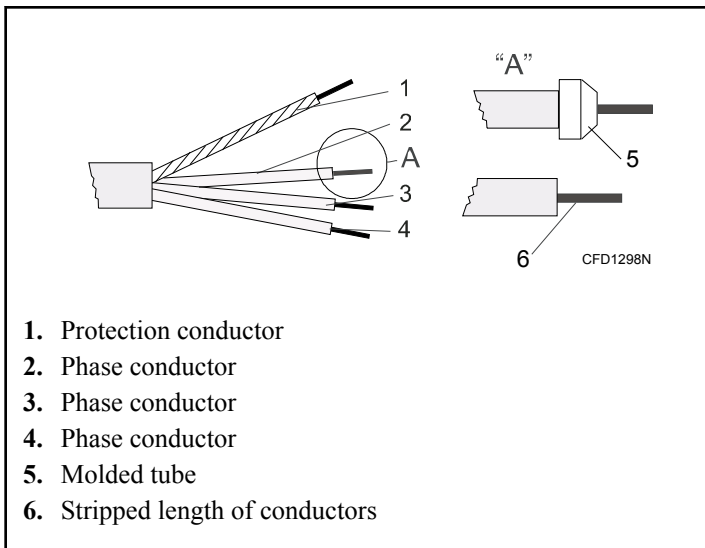

Figure 42
- Strip the conductor ends. Refer to *Figure 42*. The protection conductor must be longer so it can be routed to the machine without tension.